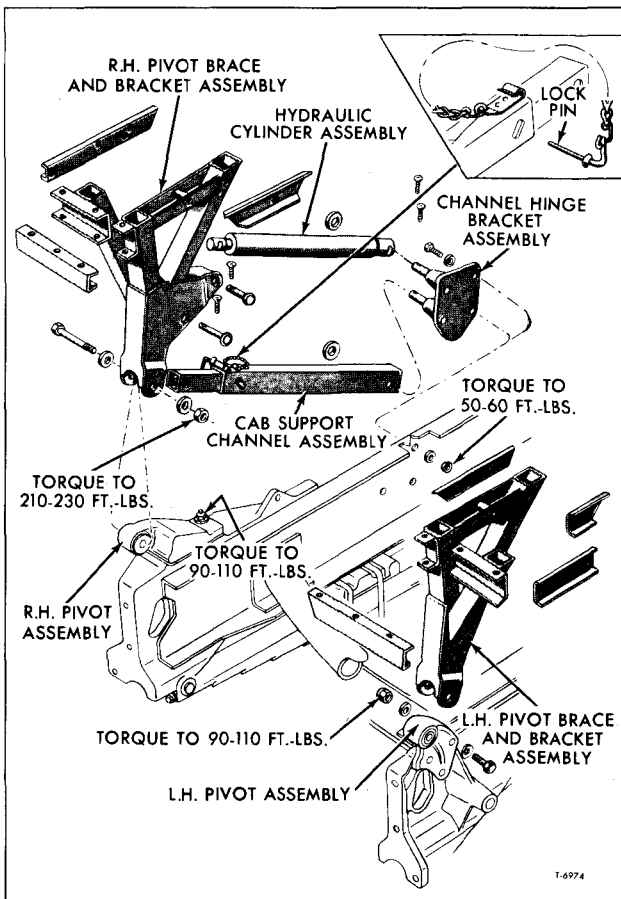
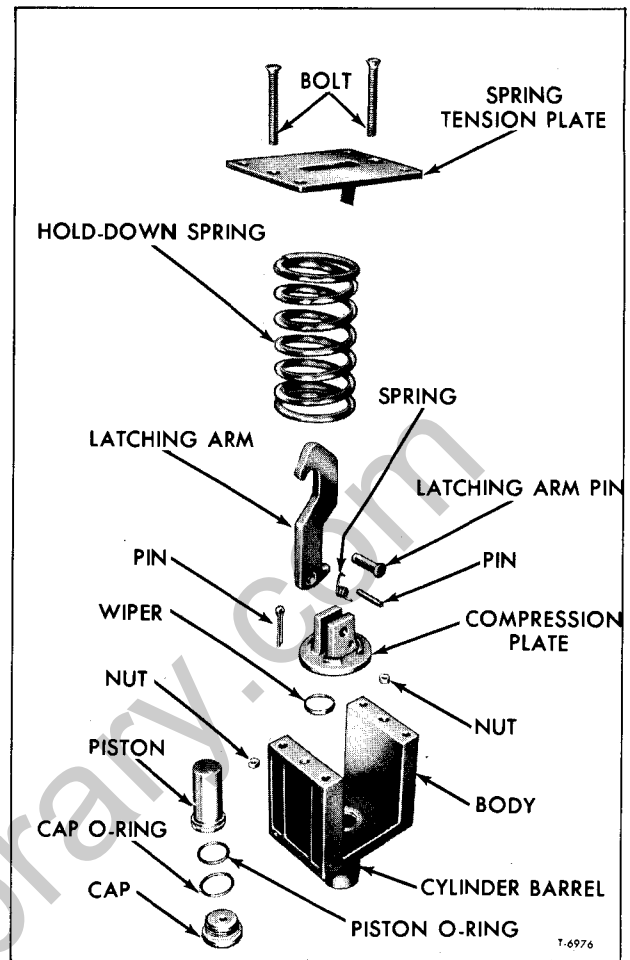

Figure 8—Front Mounting and Cylinder Installation
Figure 10—Tilt Cab Lock
1. Tilt cab and insert lock pin (fig. 8).
O-RING REPLACEMENT ON CAB LOCK ASSEMBLY (Fig. 10)
SPRING REPLACEMENT (Fig. 10)
NOTE: Latching arm can be removed from compression plate by removing cotter pin and pin. Also latching arm return spring and pin can be removed if necessary (fig. 10).
Cab is supported at four points; two pivot-type mountings at the front (fig. 8) and two shear-type mountings at the rear (fig. 10). Front pivot mountings are used in conjunction with cab tilting mechanism. Flexible cushions at rear mountings protect cab assembly from vibration and shock.
No systematic service is required other than a periodic check of mounting attaching bolt torques. Refer to figures 8 and 10 for bolt torques.